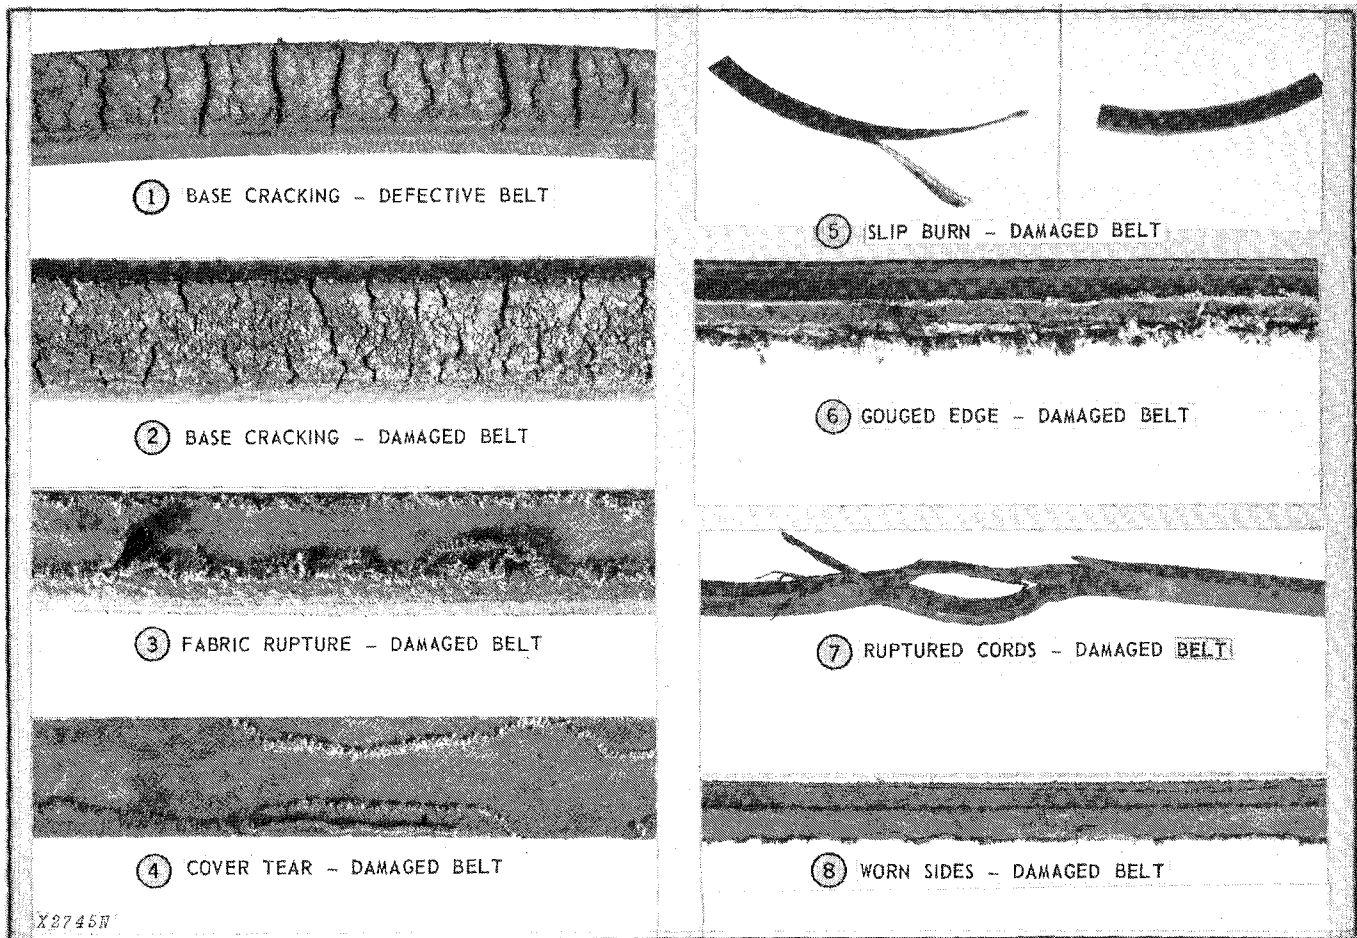

Fig. 1-Examples of Wear on V-Belts
Base Cracking—Excessive cross cracking (1, Fig. 1) extending into the rubber on the base of a belt having little or no side wear, indicates that the belt has been run a relatively short time and therefore must be defective. Small cracks which are in the cover material only do not indicate belt failure.
Fabric Rupture—A fabric rupture (3) (Fig. 1) can be caused by operating a belt over badly worn sheaves, by too much tension which forces the belt down into the grooves, or by foreign objects falling into the sheave groove while the drive is operating.
Cover Tear—A tear in the cover of a belt (4) (Fig. 1) is caused by the belt accidentally coming into contact with some part of the machine. It is no fault of the belt or its construction.
Slip Burn—This belt (5) (Fig. 1) has been ruined by being operated too loose. The belt slipped under load, and, when finally it grabbed, it snapped.
Gouged Edge—A gouged edge in a belt (6) (Fig. 1) is caused either by a damaged sheave or interference with some part of the machine.
Worn Sides—Badly worn sides of a belt (8) (Fig. 1) result from long operation without enough tension. The sides will be worn and the entire circumference will be slightly burned.